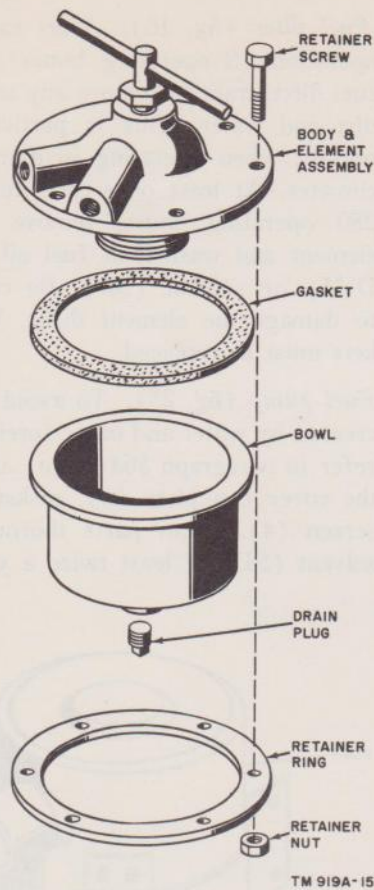

Figure 15. Oil filter, exploded view.
- (3) *Oil filter* (fig. 15). Clean the oil filter element at least once every day (after 8 operating hours) by rotating the external handle 1 complete turn in either direction. Remove the plug in the filter bowl and drain the sludge from the filter with each crankcase oil change (after 50 operating hours). If the handle becomes difficult to rotate, remove the element from the housing and wash it in solvent (SD). Clean the bowl and replace the bowl gasket. If the element disks or blades are damaged, replace the body and element assembly.